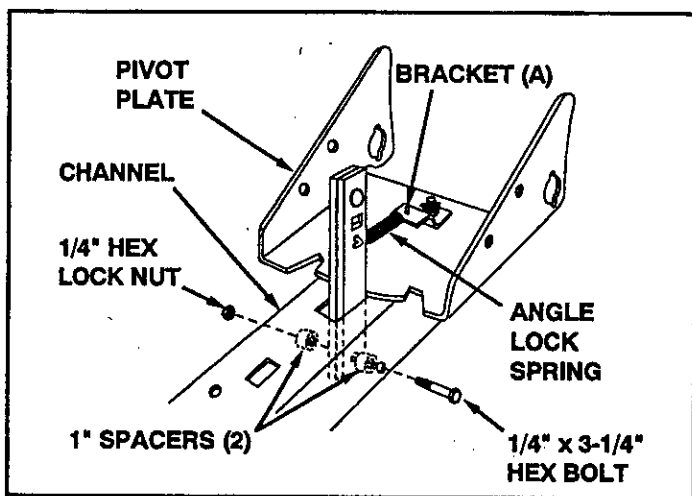

FIGURE 8 (Right Hand Side View)
- Insert the round hook end of the angle lock spring up through the hole in bracket (A). See figure 8.
- Hold the angle lock bars so that the square holes at the top. Insert the straight hook end of the angle lock spring through the middle hole in both angle lock bars as shown in figure 8.
- Insert the angle lock bars down through the slot in the channel. Underneath the channel, place a 1" long spacer on each side of the angle lock bars and insert a 1/4" x 3-1/4" bolt through the channel, the angle lock bars and the spacers. Secure the bolt with a 1/4" lock nut. **Tighten** so that lock bars can pivot freely. See figure 8.